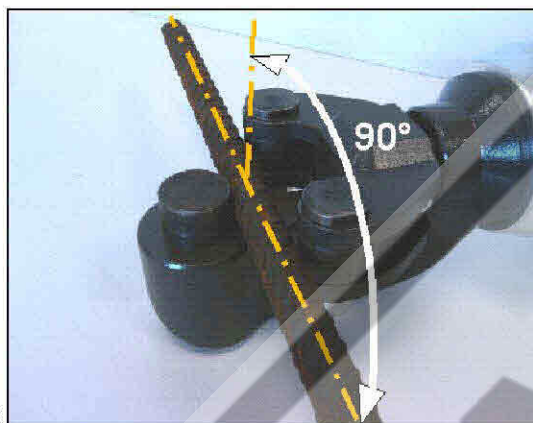

Fig. 3
Make sure the workpiece lies at right angles with respect to the axis of the equipment (fig. 3).
- Place the workpiece in the relative head housing (fig. 3) making sure that it adheres well to the base of the housing so that it cannot change position during bending.